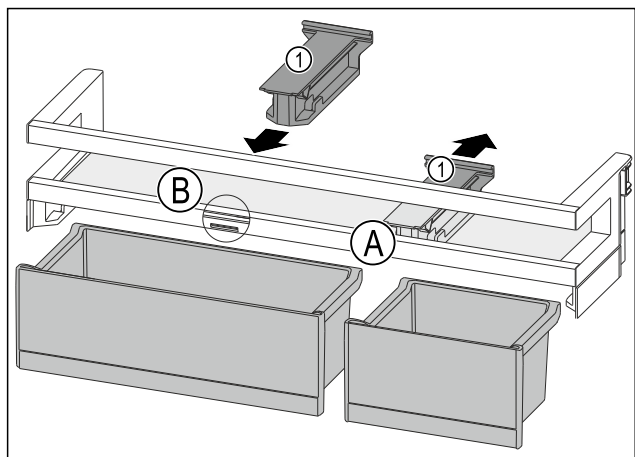

Fig. 125
- Take off the holding part Fig. 125 (1) in position Fig. 125 (A) backwards.
- Insert the holding part Fig. 125 (1) in position Fig. 125 (B).